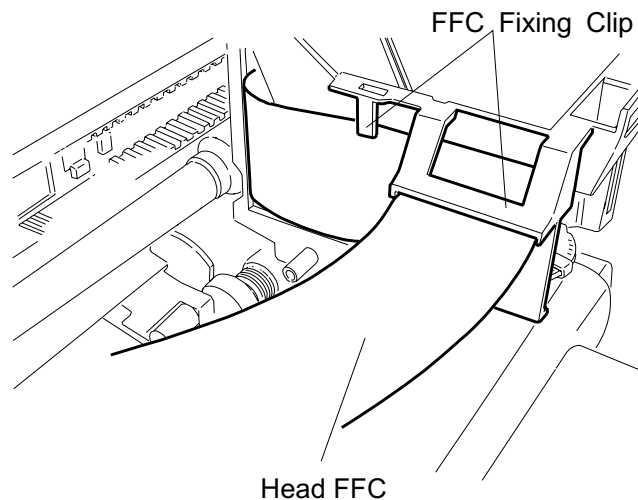

Figure 3-11. Head FFC and FFC Clips
5. Place both FFCs back into the clips used to hold them. Be sure they are also placed in the small clip beside the larger one. Be careful not to disconnect the FFCs from the printheads while installing them into the clips. (See Figure 3-11.)